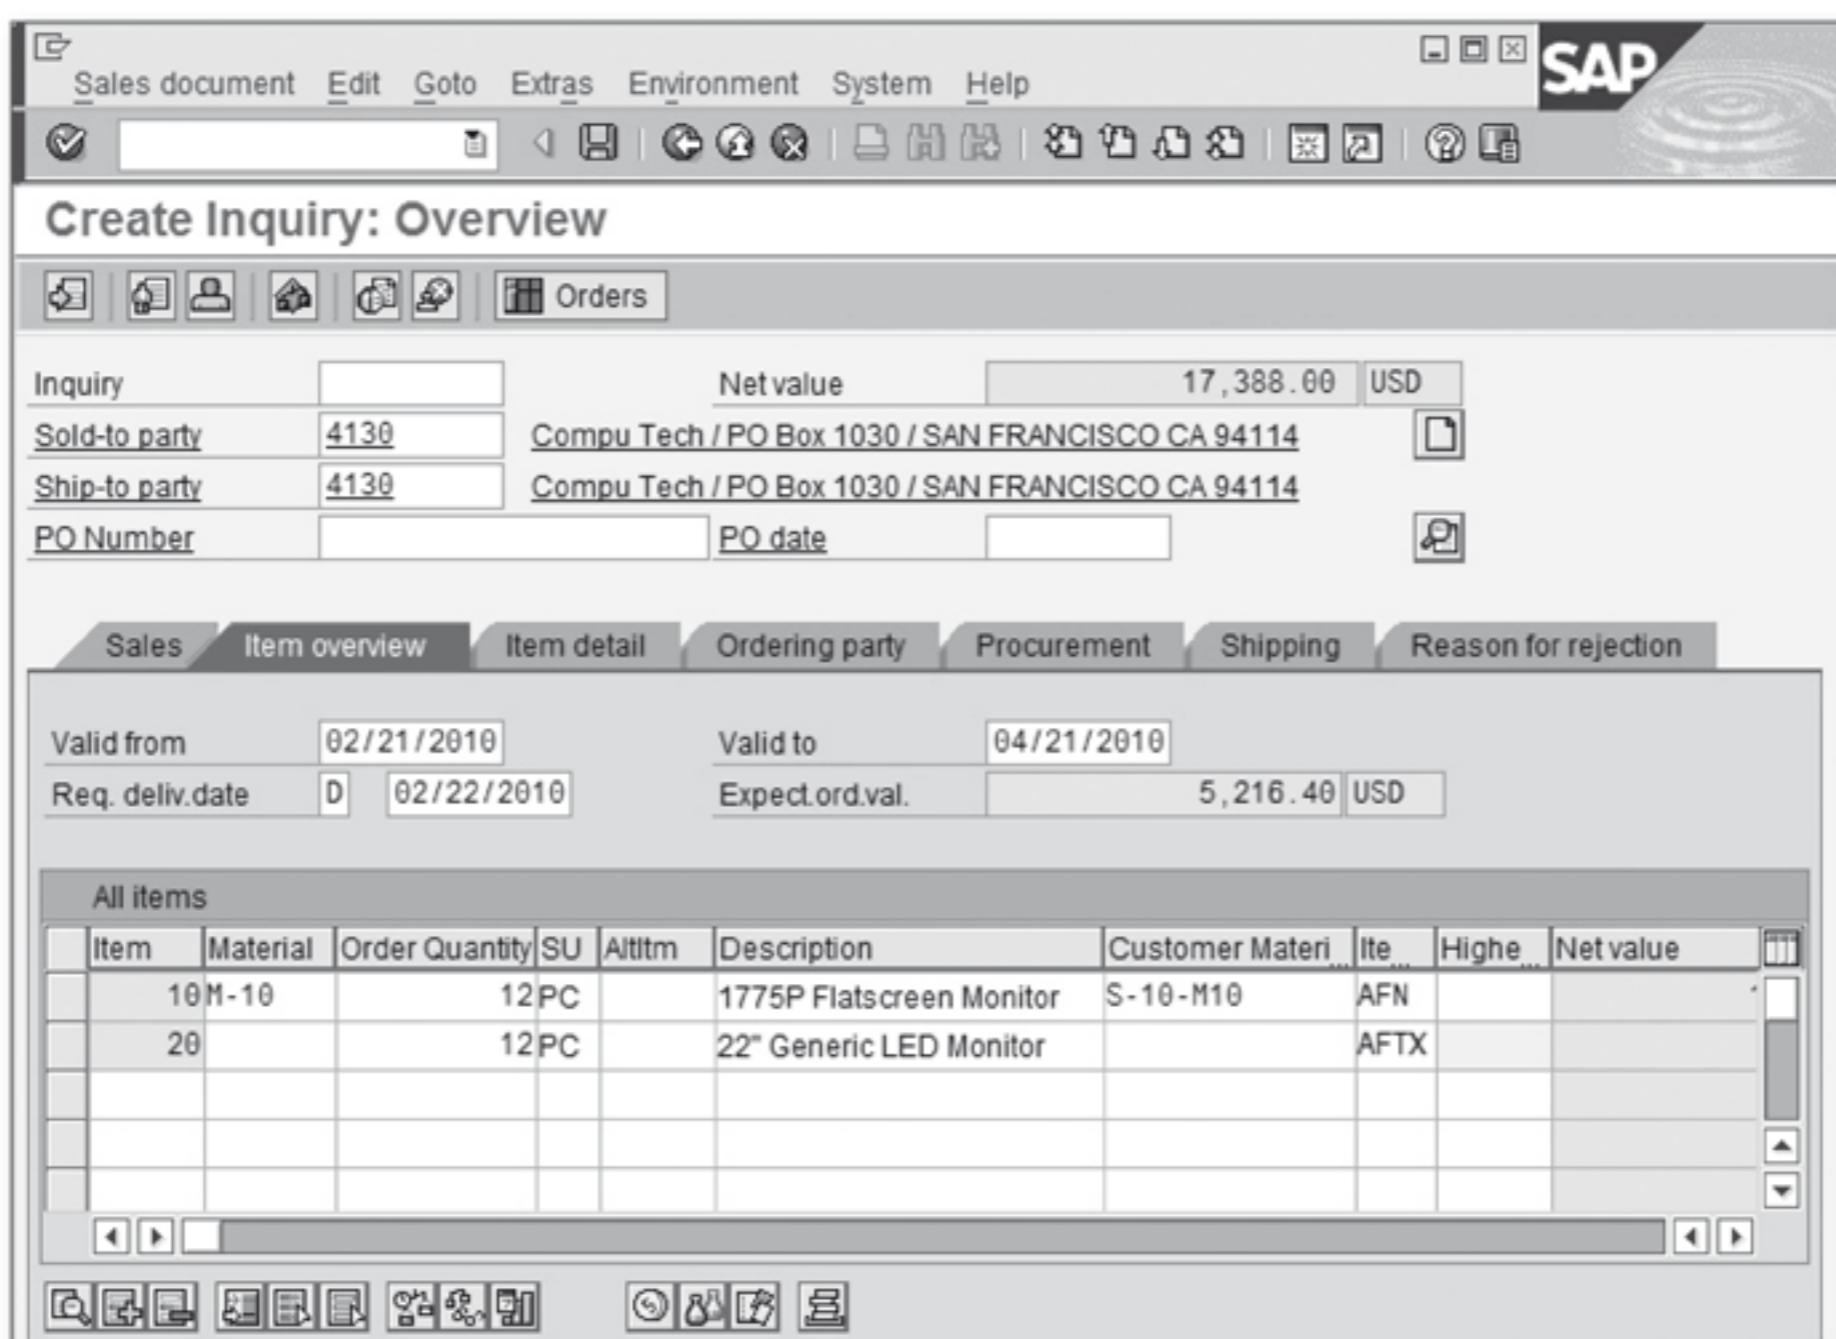

Figure 3.5 Create Inquiry: Overview Screen
2. On the Create Inquiry: Overview screen shown in Figure 3.5, enter the following data: